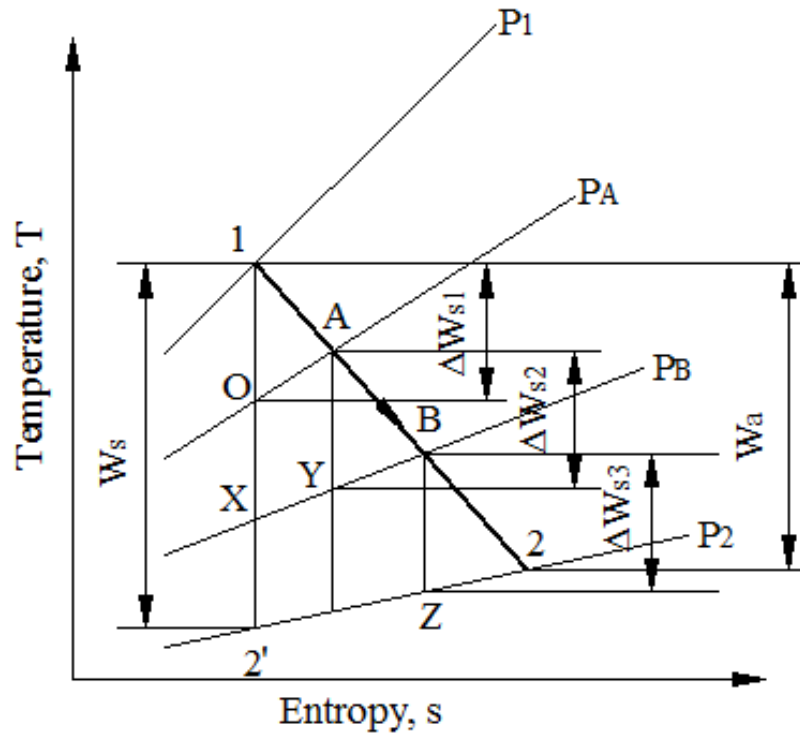

Fig. 2.8 Effect of reheat on expansion process
The thermodynamic effect of multistage expansion can be studied by considering three stage turbine working between inlet pressure  $p_1$  and the delivery pressure  $p_2$  as shown in the figure 2.8. The intermediate pressures are being  $p_A$  and  $p_B$ . The stage pressure ratio,  $p_r$  and the stage efficiency,  $\eta_{st}$  are assumed to be same for all stages. The process 1-2'' and 1-2 are the isentropic and actual expansion process respectively.
**Answer:** Consider three stage turbine working between inlet pressure  $p_1$  and the delivery pressure  $p_2$  as shown in the figure 2.8. The intermediate pressures are being  $p_A$  and  $p_B$ . The stage pressure ratio,  $p_r$  and the stage efficiency,  $\eta_{st}$  are assumed to be same for all stages. The process 1-2'' and 1-2 are the isentropic and actual expansion process respectively.